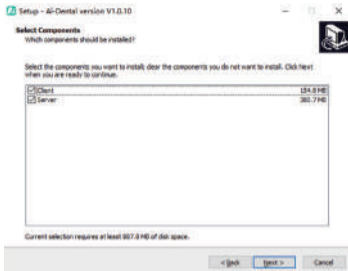

Figure 6
3.1.5 Select components. The user selects the corresponding component as needed, and then click the “Next” button, as shown in Figure 6: